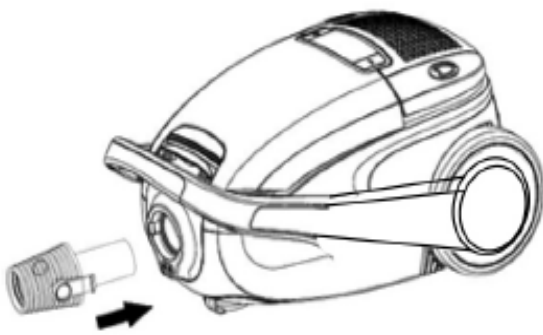

Fig.2
1. Insert the end of the suction hose (fig.2) into the intake opening of the vacuum cleaner until it locks with an audible click.